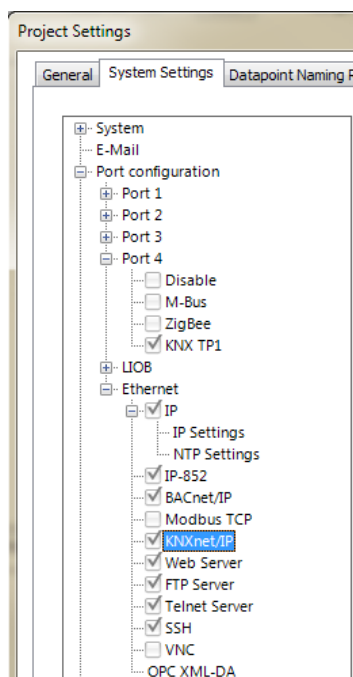

Figure 161: Enabling KNX/TP1 and KNXnet/IP in the Project Settings Dialog.
2. In the **System Settings** tab enable the KNX for Port 4 and/or for the Ethernet port, as shown in Figure 161.